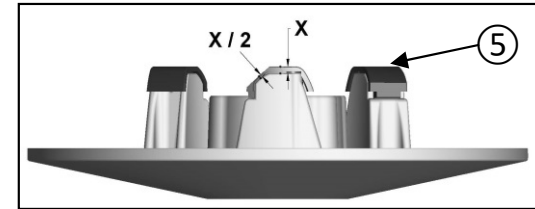

Figure 24
- Cam Shoes ⑤ replacement must be carried out when they are worn by half of the original thickness X (figure 24).